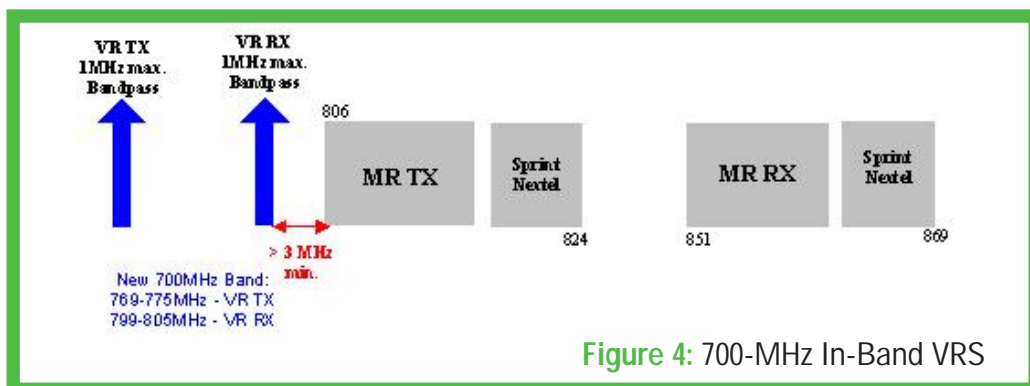

Figure 4: 700-MHz In-Band VRS
trunking systems, using 806–816/854–861 MHz, which would be used with the VRS (see Figure 4, p. 74).
- b. Use a 700-MHz in-band VRS operating at 769–775/799–805 MHz and have the VRS operation enabled on all 800-MHz trunking systems (see Figure 4, p. 74).